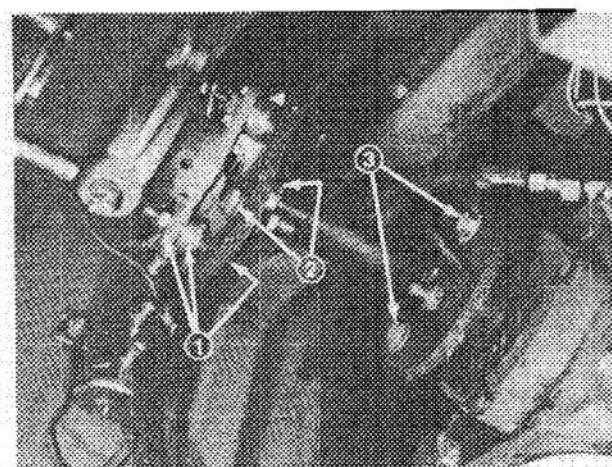

Figure 59
3. If drive coupling assembly must be disassembled, separate rubber couplings from power shaft by removing four nuts, flatwashers, capscrews and spacers (Fig. 59).
1. Assemble rubber couplings and power shaft with capscrews, spacers, flatwashers and nut (Fig. 59).
2. Position drive coupling assembly between engine and transmission hub, and align the holes. Secure drive coupling between hubs with capscrews, flatwashers, rubber washers and nuts on engine end; capscrews, flatwashers and nuts on pump end (Fig. 59). Tighten the capscrews alternately and evenly to prevent distortion of the rubber coupling.